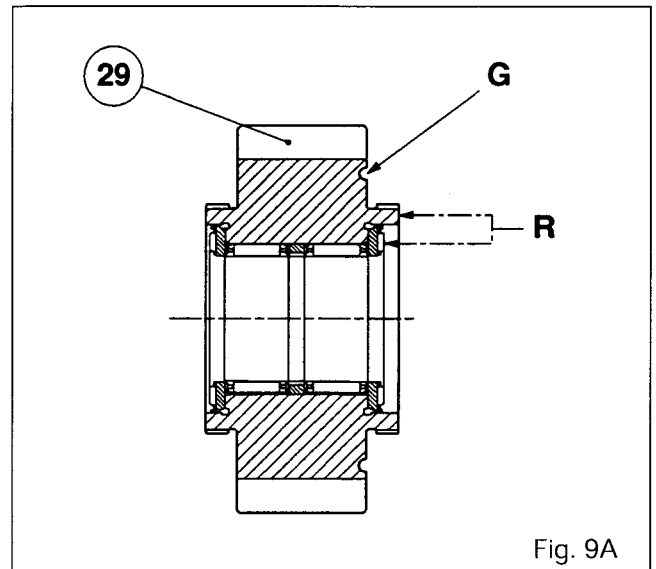

Fig. 9A
32. On a bench, pre-assemble the 3rd speed driving gear (29) with its synchro rings, bearings (79) and (81), washers (27) and (32) and synchromesh (31).
33. In the housing, install the Tortoise gear (36) with its synchro ring, the 3rd speed driving gear (29) (with recess "R" or groove "G" facing the 3rd-4th speed synchromesh (Fig. 9A) and the synchromesh (31).